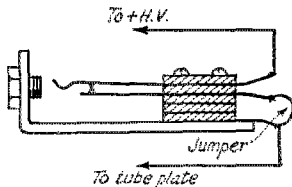

FIG. 7—Showing the connections of the jacks in the tube plate circuit to permit plugging in the milliammeter without breaking the circuit.
*The oscillator apparatus is mounted on a copper plate over which the shield sits. Crystal operation is made possible by plugging the crystal into the two sockets in the right foreground and changing the coil unit to one consisting of a plate coil only. The coil shown in this view is not the coil described under Fig. 7 but a low-C affair which was afterwards discarded.*
The provision of meters for this unit was made with the idea of facilitating the tuning adjustments. A voltmeter is included for the filament circuit, of course, but one plate milliammeter is made to serve for all three tubes by connecting it to a phone plug and arranging a phone jack in the plate circuit of each tube in the manner shown in Fig. 7. By connecting the leaves of the jacks in this way the plate circuit is never opened irre-